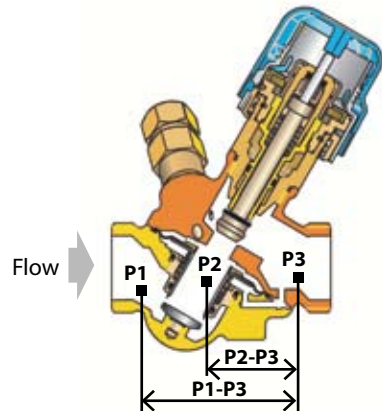

Fig. 2
- Measure the differential pressure across the measuring nipples of the AB-QM. The measuring nipples are placed in such a way that P2-P3 is measured (see figure 2).